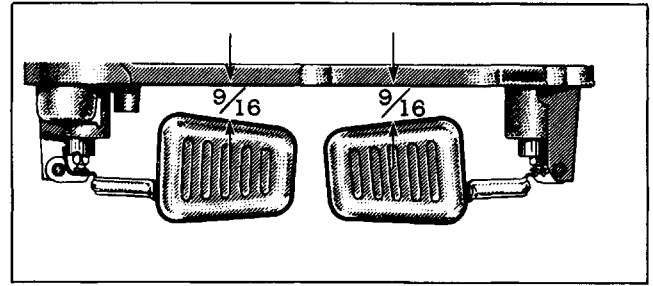

Fig. 6B-65 Float Drop
- c. **Float Drop Adjustment:** With bowl cover held in upright position and measuring from center of float, the distance between top of floats and bowl cover should be $\frac{9}{16}$ " for both primary and secondary floats (Fig. 6B-65). Adjust by bending stop tabs on float brackets.